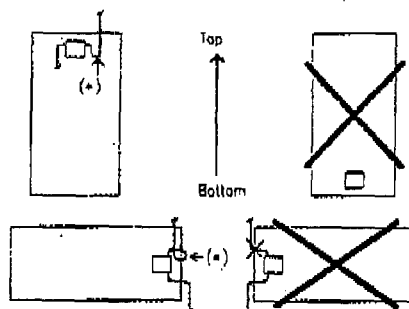

Figure 2
- To avoid any water around and in the connection box, it is better that its will be not mounted at the bottom of the module (figure 2).
- An horizontal mounting can be used to make the installation easier (figure 2).